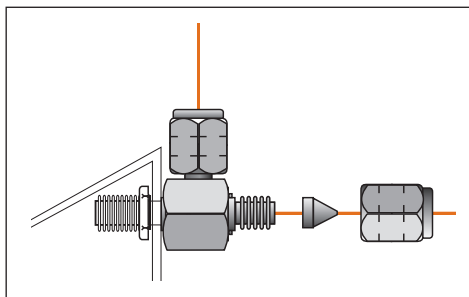

Figure 5. The column flow splitter with the MS and atmospheric restrictors installed
8. To connect the MS detector tubing to the column flow splitter, repeat steps 3 to 6 but use the tubing labelled 'MS Restrictor.' (Figure 5)